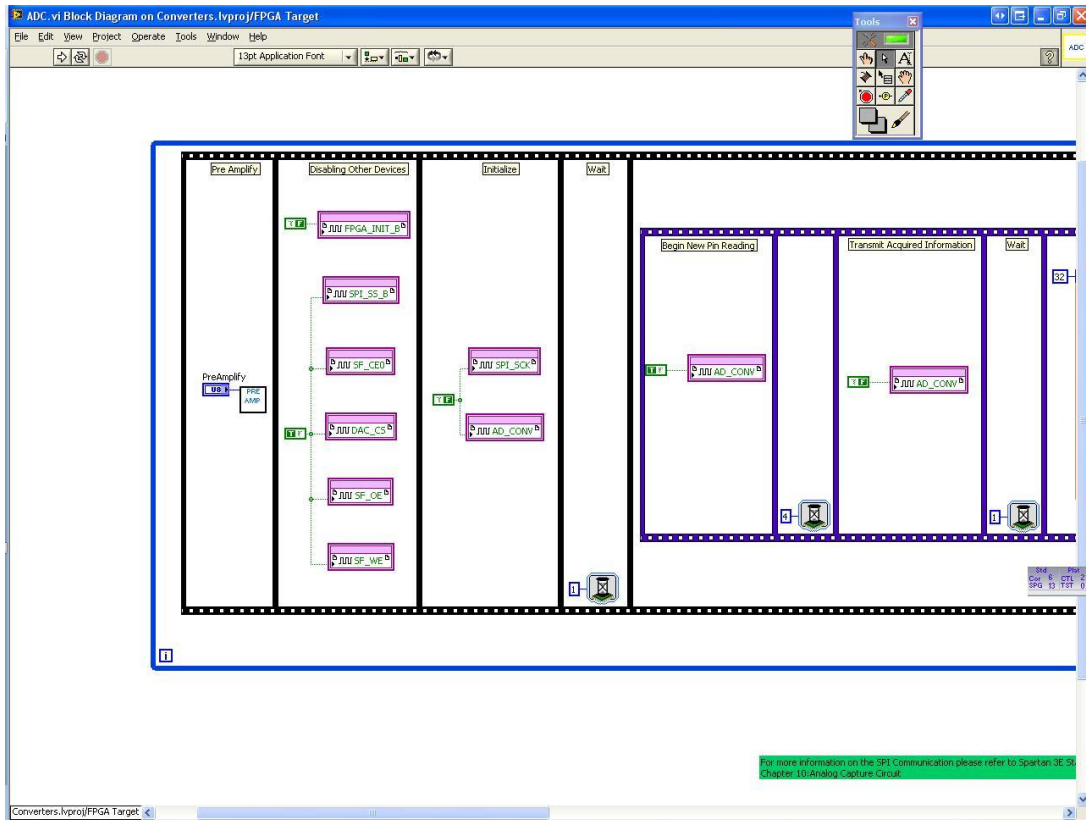

Figure 26: Outer loop of ADC.vi
4. Go to the block diagram of the ADC.vi. Notice that there is an outer While Loop with a Case structure determining when to start the acquisition. Since we want the program to acquire data right away from the ADC, we are now going to remove the outer While Loop and Case structure. Right-click the outer While Loop and select **Remove While Loop**. Next, right-click the outer Case structure and select **Remove Case Structure**. Remove any broken wires from the case as well as any unused controls. Your left part of the block diagram should look similar to Figure 26.